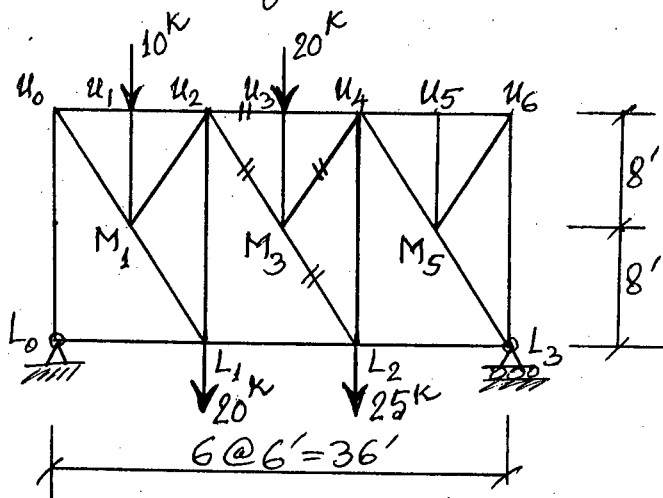

Fig. 8
10. Determine the bar forces in members U_2U_3 , U_2M_3 , M_3U_4 and M_3L_2 of the truss shown in Fig. 8. (21)